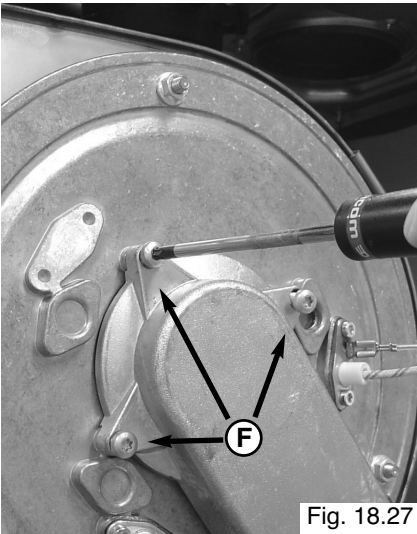

Fig. 18.27
2. Remove the 3 screws "F" from the air/gas manifold (Fig. 18.27);